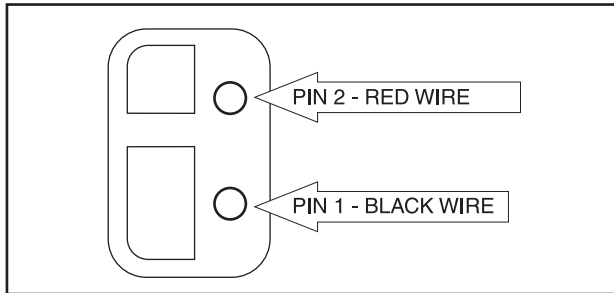

Figure 7-15. – Harness to Fuel Pump
5. To test for an open fuel pump coil, connect one test lead to the Red Wire (Pin 2 of Connector 2) going to the fuel pump. Connect the other test lead to the Black Wire (Pin 1 of Connector 2) going to the Fuel Pump (see Figure 7-15). The VOM should indicate Fuel Pump coil resistance of about 29.5 kW. (Current draw of the pump at nominal voltage is approximately 1.4 amperes MAXIMUM).
6. To test for a shorted fuel pump coil, connect one test lead to the Red Wire (Pin 2 of Connector 2, see Figure 7-15). Connect the other test lead to the fuel pump housing. “Infinity” should be measured.